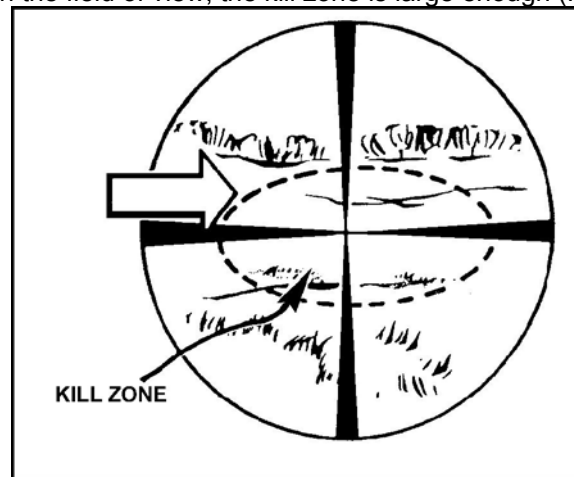

Figure 5. Large kill zone.
- e. The kill zone is large enough to permit the M2 or Dragon gunner to acquire, fire, track, and hit a target vehicle. Generally, if the gunner looks through his sights at the kill zone and no obstructions are in the field of view, the kill zone is large enough (Figure 5).